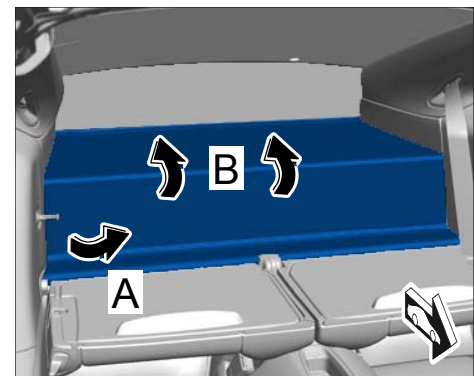

Figure 1
- 4 Pull rear cover out slightly sideways ⇒ *Figure 1 -arrow A-* and swivel it upwards ⇒ *Figure 1 -arrows B-*.